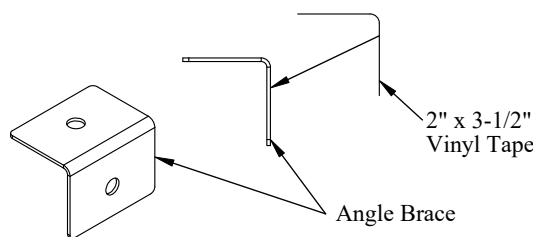

Figure 9: Vinyl tape locations.
1. **Arrange** the three (3) 12ga. x 1-1/2" x 19-1/2" filler strips end to end (Figure 9).
3. **Apply** the vinyl tape to the angle braces as shown (Figure 9)